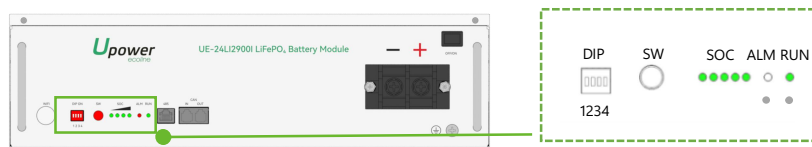

Figure 4-1
- After the indicator self-test, the RUN indicator will light and the SOC indicator will be on (100% SOC status in the Figure 4-1).